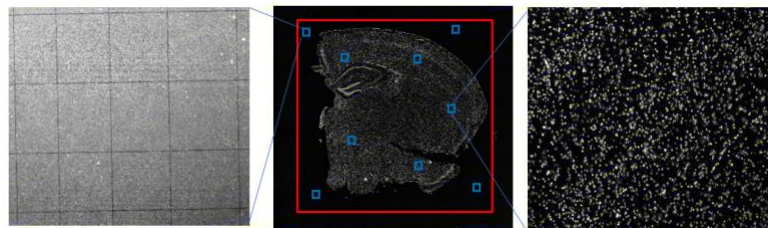

Figure 1. DAPI image of mouse brain tissue
- 5) After scanning with 4X objective lens, take fluorescence images from the chip with the following microscope setting: select the fluorescence channel, 10X objective lens, full scan on capture area; As shown in Figure 1, taking the DAPI channel image of mouse brain tissue as an example, the red box in the middle picture is the selected tissue area, and the small blue boxes are the added focal points. The picture on the left shows a screenshot of a focal field window selected outside the tissue, which should ensure that the tracklines are clear and distinct. The picture on the right is a screenshot of a focal field window selected in the tissue area, which should ensure that the tissue outline and contour are clear;